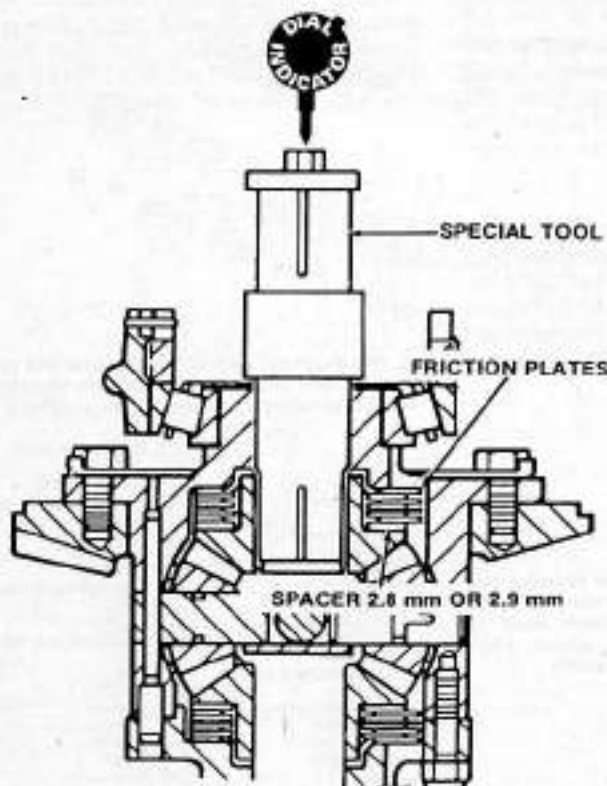

Fig. 27—View showing special tool installation and dial indicator position to check Carraro front drive limited slip differential friction plate end play.
stall tool (Fig. 27) in friction plates. Tighten bolt (6—Fig. 28) of tool until tapered plug inside tool pushes side of tool against internal splines of side gear. Turn side gear so it is in full mesh with bevel pinion gears. Mount dial indicator so probe contacts head of bolt (6) of tool. See Fig. 27. Move tool inward and outward and record end play. Correct end play is 0.03-0.02 mm (0.001-0.008 inch) and is adjusted using 2.8 mm or 2.9 mm spacer plate. See Fig. 27. Renew plates if end play is not within specified range.